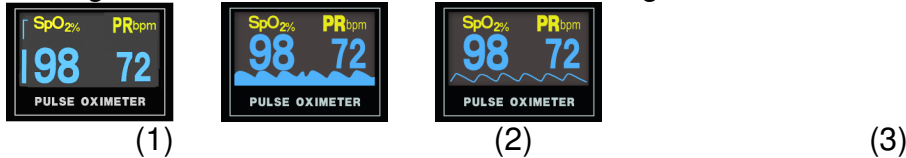

Fig.7 Three display modes
After turning on the oximeter, each time the function button is pressed, the oximeter will switch to another display mode, shown as Fig.7.
There are three display modes shown in Fig. 7. The first figure is pulse column display mode. The second figure is the waveform mode. The third figure is line waveform mode indicating SpO2% trend.
- Fig.7(1) **Pulse column:** This is used for signal identification and quality indication during motion and low signal to noise situations. The bar rises and falls with the pulse, its height indicating signal quality. When the bar is very low, the SpO2 and pulse rate values may be suspect.
- Fig.7(2) **Filling-up SpO2 plethysmogram wave:** SpO2 plethysmogram measurement is employed to determine the oxygen saturation of hemoglobin in the arterial blood. If, for example, 98% hemoglobin molecules in the red blood cells of the arterial blood combine with oxygen, then the blood has a SpO2 oxygen saturation of 98%. The SpO2 numeric on the Oximeter will read 98%, refer to Fig.7.(2). The SpO2 numeric shows the percentage of hemoglobin molecules which have combined with oxygen molecules to form oxyhemoglobin. The SpO2 plethysmogram measurement can also provide a plethysmogram wave. During this mode, the PR tone is dumb.
- Fig.7(3) **SpO2 plethysmogram wave**